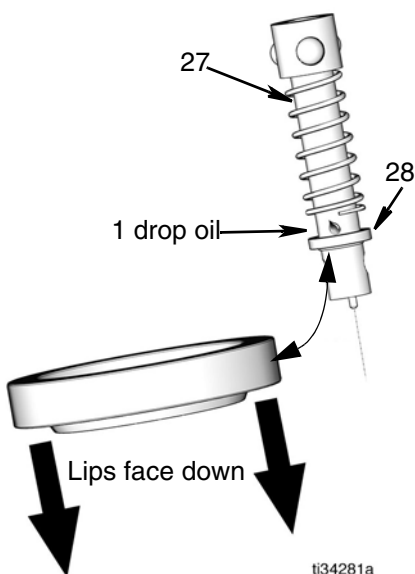

FIG. 28
11. Install seal (28) onto trip rod (27) See FIG. 28.